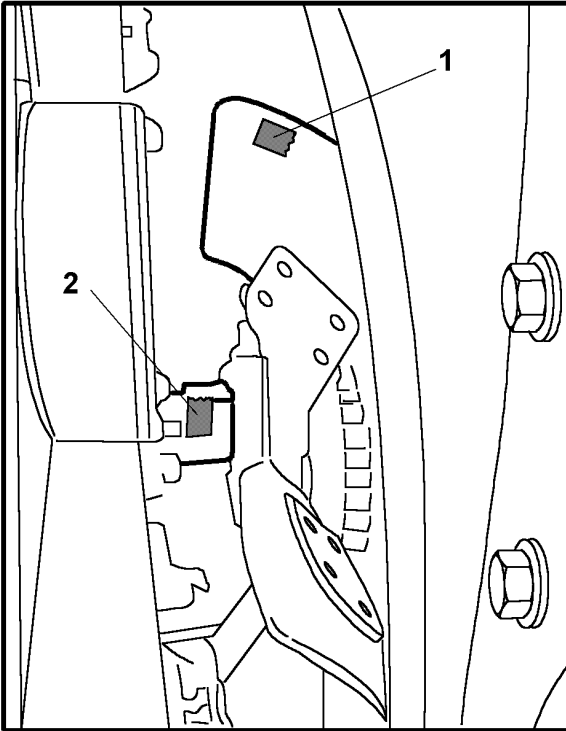

Figure 3 Placement of Reflective Tape
5. Apply a strip of reflective tape to one (1) blade of the fan and another strip to the fan drive shaft so that fan RPM and fan drive shaft RPM can be measured with the digital photo-tachometer (Figure 3).